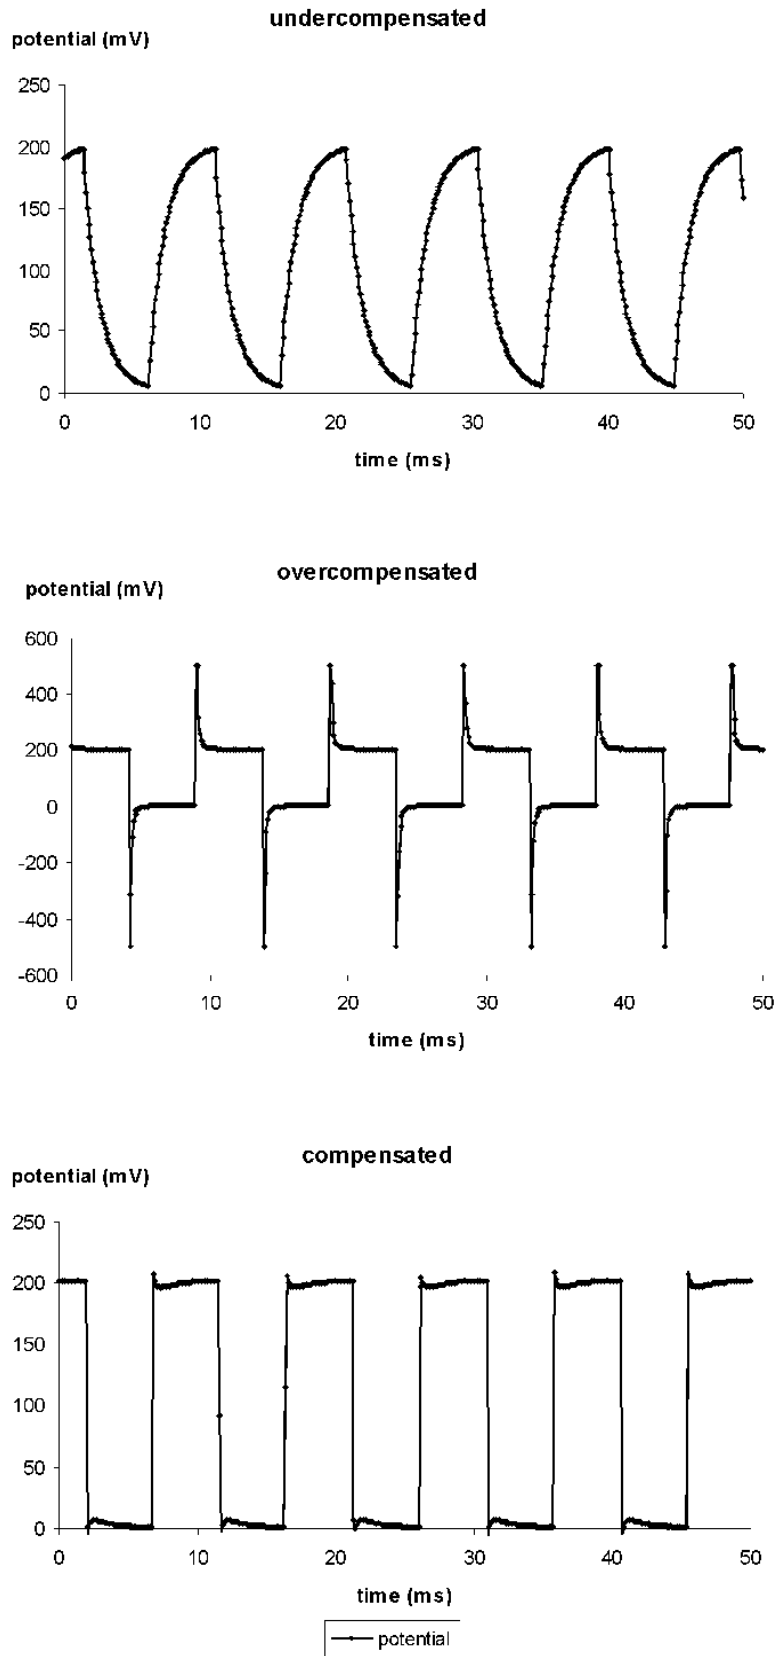

Figure 9: Tuning of the capacitance compensation using a 100 MΩ resistor
With the cell model connected or the electrode in the bath the CAPACITY COMP. control is turned clockwise until there is no artifact on the POTENTIAL OUTPUT (see Figure 9).
- o Compensate the input capacitance as shown in Figure 9 using the CAPACITY COMP. potentiometer (#51, Figure 1).
Figure 9 illustrates the capacitance compensation procedure using a 100 M Ω resistor that represents the electrode. The pulses were generated using the automated electrode resistance test circuit of the ELC-03XS. The upper diagram shows an undercompensated capacitance. In the diagram in the middle the capacitance is slightly overcompensated and in the lower diagram it is well compensated.
- o Immerse the electrode into the bath (not in a cell) as deep as necessary during the experiment. Test the capability of the electrode to carry current (see chapter 8.4), compensate the potential offset (see chapter 0), measure the electrode resistance (see #10, chapter 3.4) and compensate the input capacitance (see chapter 8.3 and Figure 9).